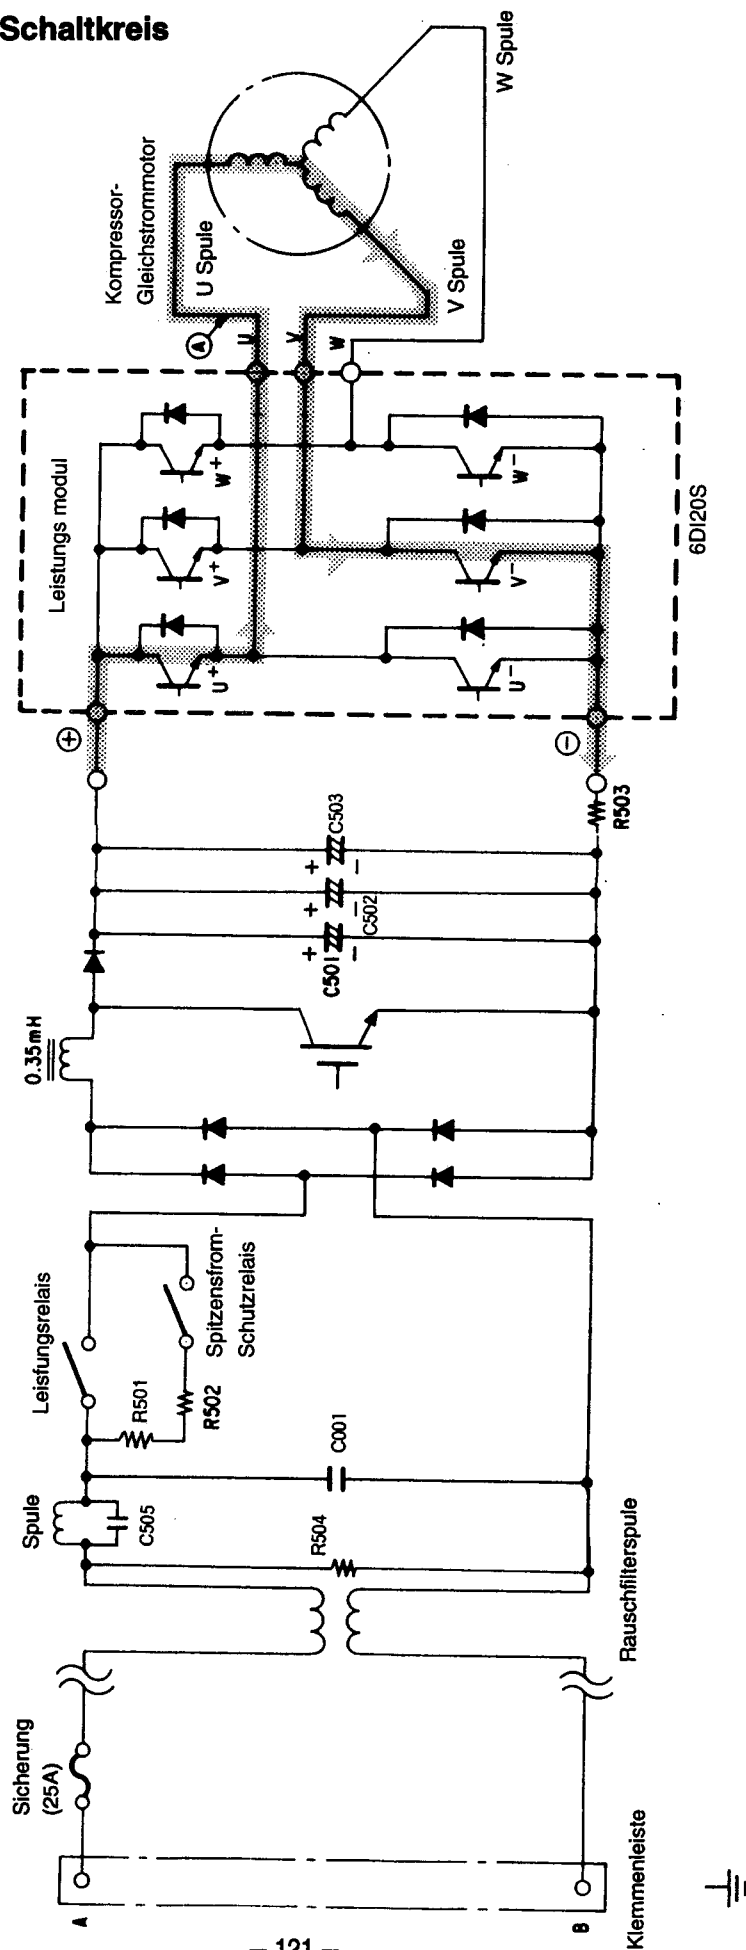

Abb. 3-1 Leistungsmodul-Schaltkreis (U⁺ is EIN, V⁻ is AUS)
* At point E: U⁺ is ON, V⁻ is ON (circuit in Fig. 3-1)